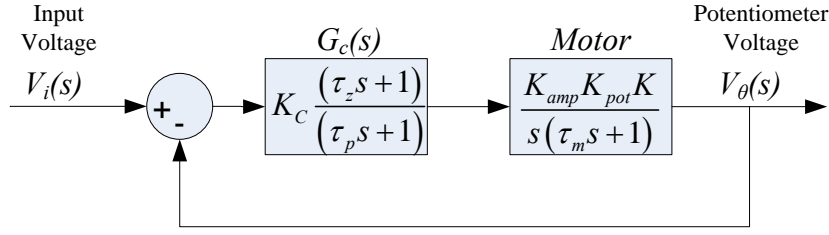

Figure 6.1: DC Motor Lead Controller System.
- Consider the motor controller of Figure 6.1 using the proportional control $G_c(s) = K_c$. Develop a Bode plot of the resulting loop transfer function
Using frequency domain techniques (See page 364 in 7th Ed. or page 349 in 6th Ed), design G_c to obtain this cross-over frequency and phase margin. To avoid poor response or control saturation, keep the DC gain in the range $2 \leq K_c \leq 4$. To prevent noise amplification keep your poles and zeros closer to the origin than 500 rad/s. As before, we are interested in the magnitude and phase characteristics of the open-loop response to determine the closed-loop response, using the feedback configuration illustrated in Fig. 6.1.
1. Generate a SIMULINK model of Figure 6.1; use the control block diagram and the gains in step (e) of the prelab. Use a **To Workspace** block to store the step response as “V”, and set the “Save Format” to **Array**. In the simulation parameters, use **ODE45** for the best results; to smooth out the curve, set **Max step size** to 0.01 or even 0.001. Also, change the stop time to shortly after the transient response finishes (a couple seconds).
8. In MATLAB, change the *Current Folder* (left-hand panel) to C:\matlab\ECE486\NETIDs\Lab6. Open the *Lab6-Starter.slx* SIMULINK file by double clicking on it in the MATLAB panel. Then once this SIMULINK file opens, connect ports to corresponding signals to create a SIMULINK model that implements Figure 6.1. You may use a **Transfer Fcn** block for the controller. Set the gains to match the low-DC gain controller from part (e) of the prelab. Adjust the configuration to use **ODE1** with a *Timestep* of 0.002. Set the *Stop time* to 600s (do not go larger than this).